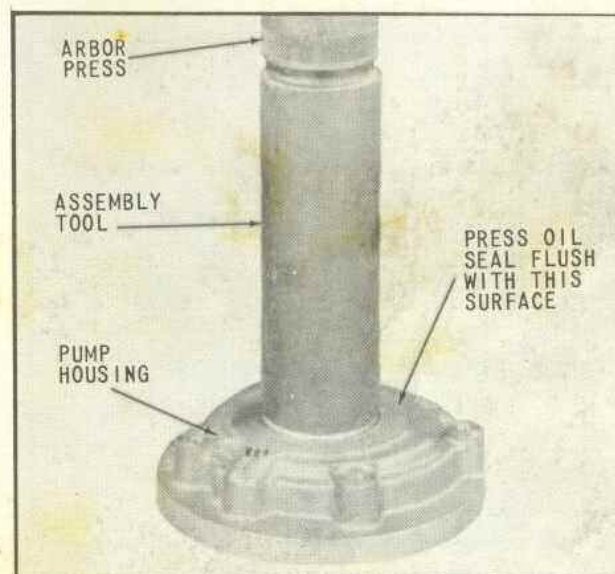

Fig. 93 Pressing Oil Seal
7. Using an arbor press and suitable tool, press seal into housing until front face of seal is flush with front face of pump housing, (Fig. 93).